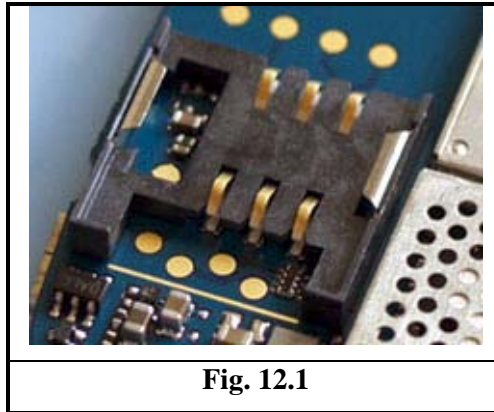

Fig. 12.1
- Check if the SIM-reader X2300 (*Fig. 12.1*) is not mechanically damaged, dirty or oxidized. Replace it if necessary.